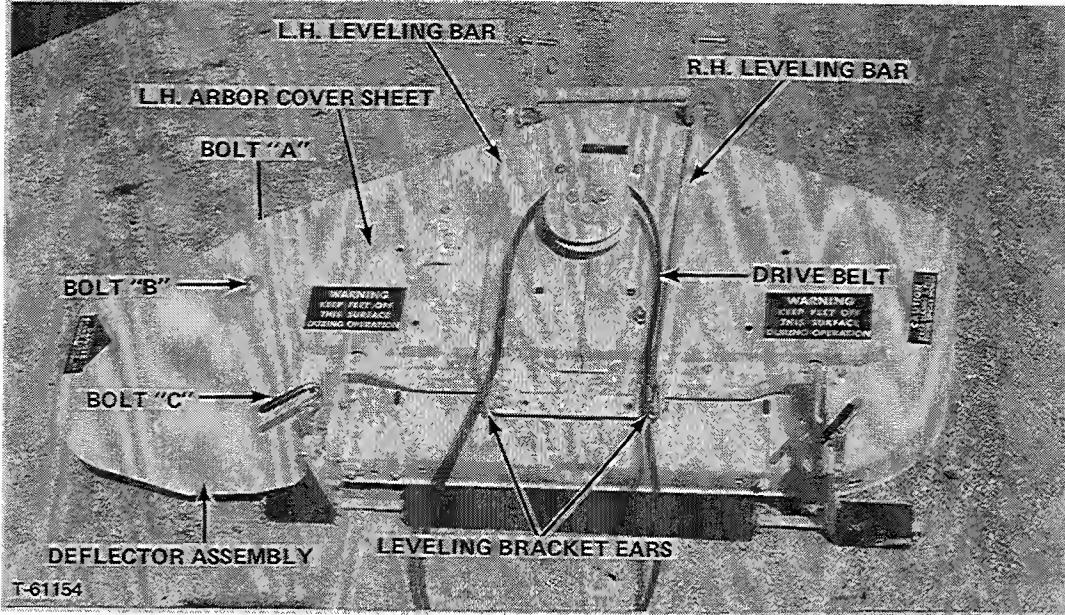

FIGURE 10 - 42" Mower Set-Up
- Fasten the rear of the right hand and left hand leveling bars to the outside of the leveling bracket ears with bolts, spacers, flat washers, lockwashers and nuts as shown in Figure 10.
- Bolt the discharge deflector to the L.H. end of mower housing, slipping notch in front leg of deflector under large flat washer on bolt "A" and installing bolt, flat washer, lockwasher and nut at holes "B" and "C" (Figure 10). Tighten bolts securely.